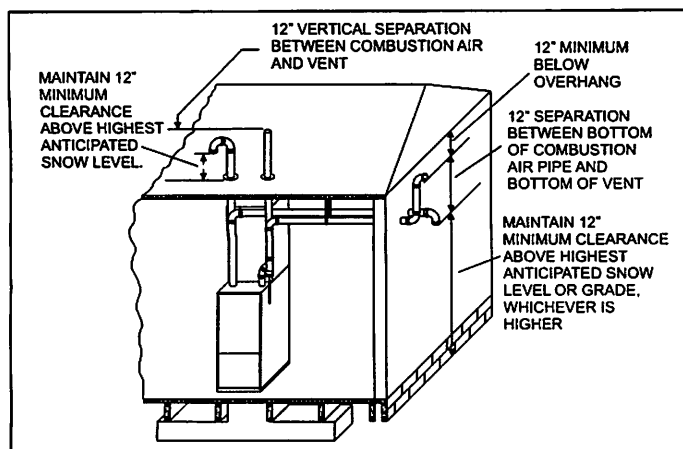

FIGURE 21: Termination Configuration - 2 Pipe
8. Sealed combustion air systems must be installed so the vent and the combustion air pipes terminate in the same atmospheric zone. Refer to Figures 21, 22, 23, 24, 25 & 26.
This installation requires combustion air to be brought in from outdoors. This requires a properly sized pipe (shown in Figures 21, 22 & 23) that will bring air in from the outdoors to the furnace combustion air intake collar on the burner box. The second pipe (shown in Figures 21, 22 & 23) is the furnace vent pipe.